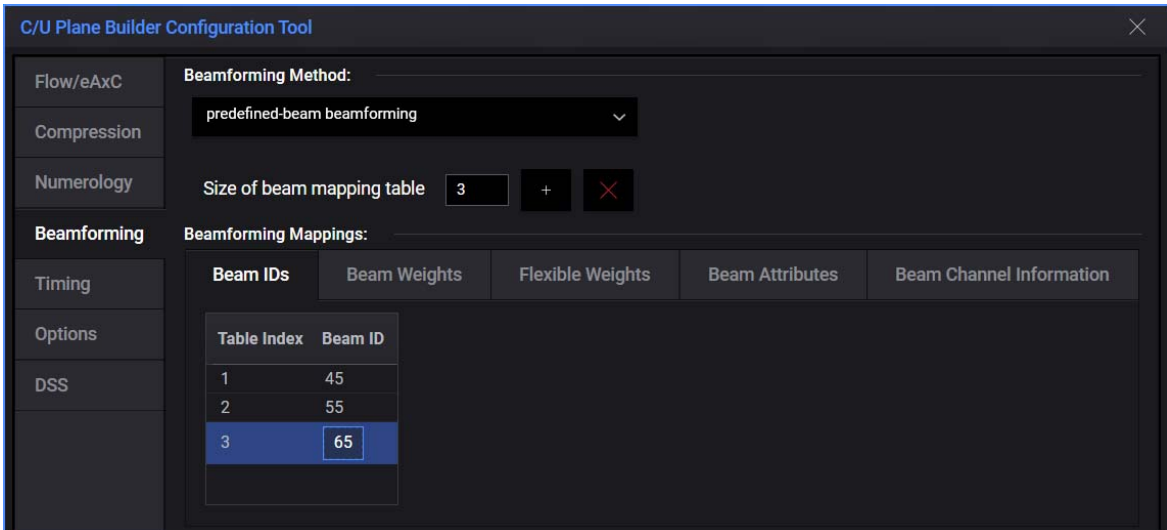

Figure 287 Changing values for Beam / Ue IDs
- To modify the value of a Beam ID (under Beam IDs tab) or a Ue ID (under Beam Channel Information tab), double-click the entry and type a new value, as shown in Figure 287.